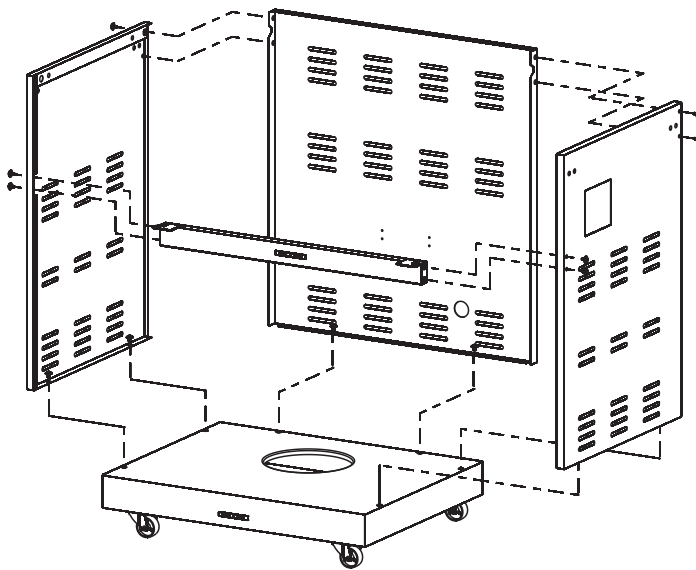

Figure 2
5. Attach cart back to back of cart bottom with two (2) lock washers and 1/2" panel screws. See Figure 2.
6. Attach cart side panels to cart back with two (2) lock washers and 1/2" screws per cart side. Then, attach side panels to the cart bottom with two (2) lock washers and 1/2" screws per side. See Figure 2.
7. With flange on door brace positioned upward, attach door brace to cart sides with four (4) 1/2" screws. See Figure 2.